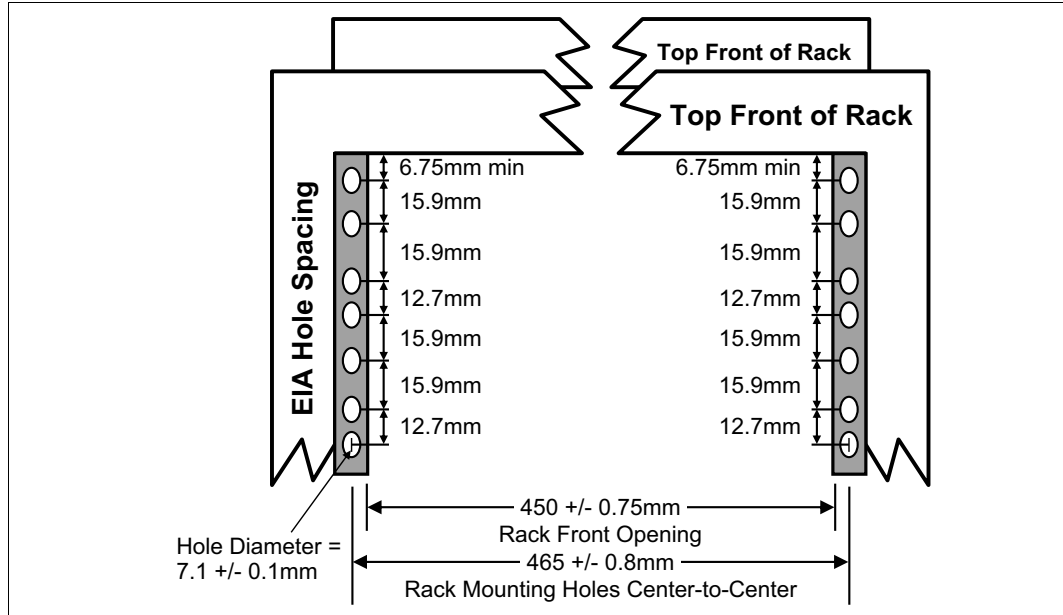

Figure 1-10 Rack specification dimensions - top front view
- ▶ The vertical distance between the mounting holes must consist of sets of three holes spaced (from bottom to top) 15.9 mm (0.625 in.), 15.9 mm (0.625 in.), and 12.67 mm (0.5 in.) on-center, making each three-hole set of vertical hole spacing 44.45 mm (1.75 in.) apart on center. Rail-mounting holes must be 7.1 mm ± 0.1 mm (0.28 in. ± 0.004 in.) in diameter. Figure 1-10 shows the top front specification dimensions.